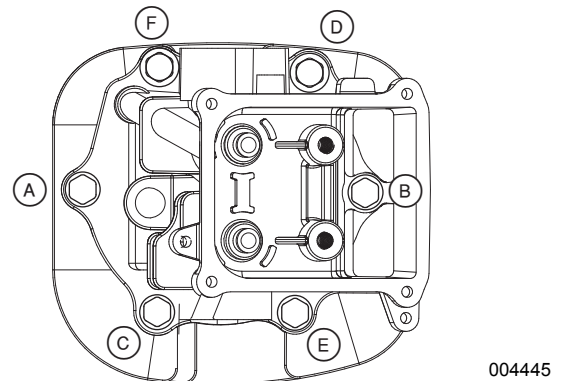

Figure 7-16. Torque Sequence for Cylinder Heads
2. See Figure 7-16. Tighten head bolts in A-B-C-D-E-F sequence to 22 ft-lb (29.9 Nm) torque.